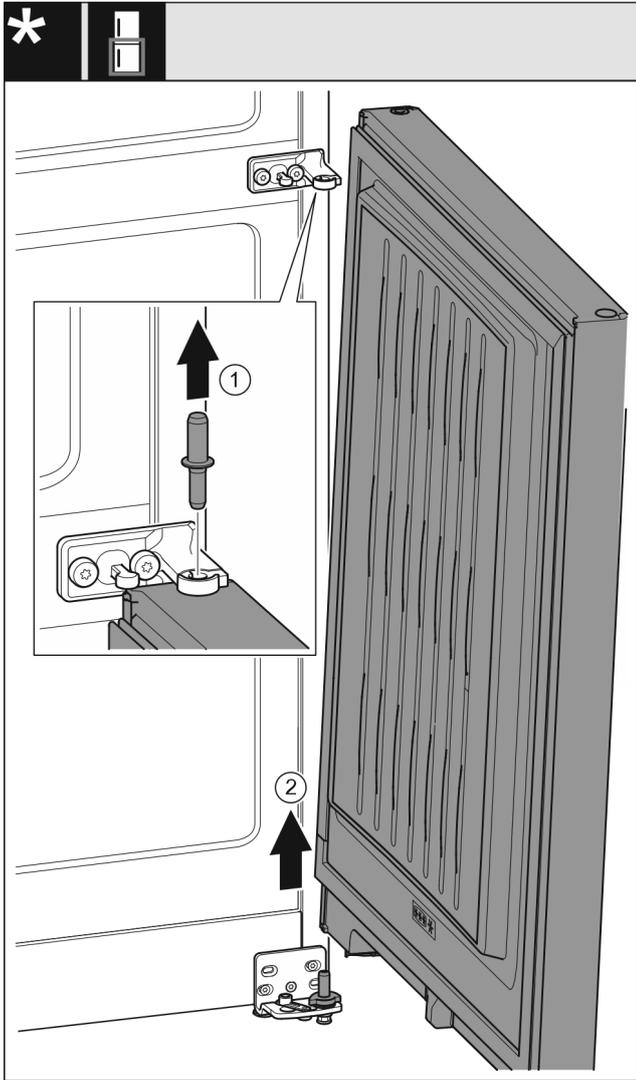

Fig. 31 Without closing damper*
- ▶ Pull out the bolt Fig. 31 (1) upwards.*
- ▶ Swing out the door Fig. 31 (2), pull it upwards and set it aside.*